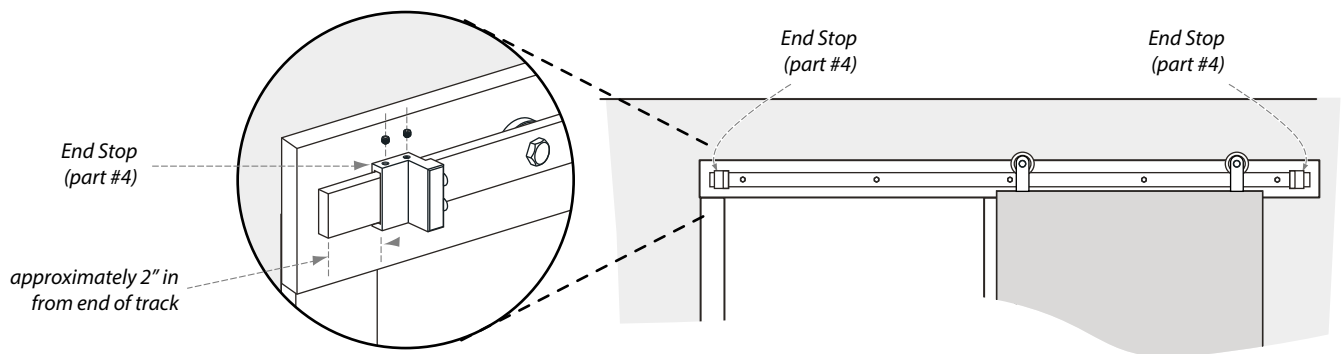

Figure 8
- On both ends of track, install end stops (part #4) approximately 2" in from the end of the track to prevent door from rolling off (figure 8).